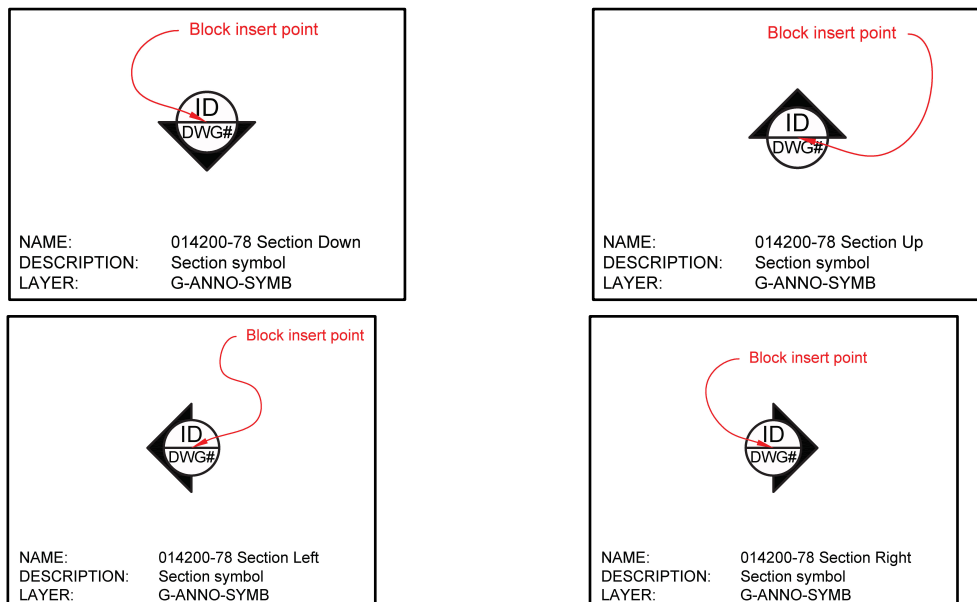
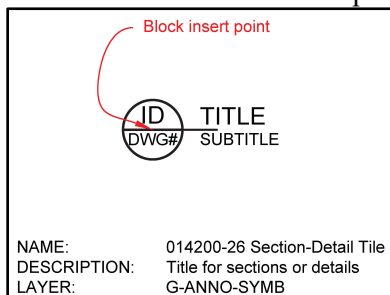

Figure 4-Block 014200-78 Section Cut Reference
Figure 5-Block 014200-26 Section-Detail Title
2. Sections shall be identified by **letter** using the symbols indicated in Figure 4.
Sections shall be identified within a drawing using Blocks 014200-78 Section. The four variants of Block 014200-78 of down, up, left, and right are shown in Figure 4.
An elevation is a view of building from one side. In essence, it is an external section of a building although section symbols (Figure 4) are not used. Elevations are usually identified as Front Elevation, West Elevation, North Elevation, SE Elevation, etc. Identification of elevations shall use Block 014200 (Figure 5).